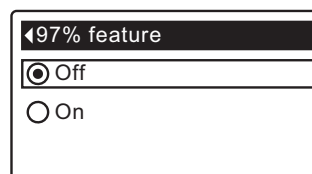

FIG. 78
- 8c. **97% feature:** If the desired option already has a black dot next to it (See Figure 78), go to Step 9. Otherwise, press the DOWN (▼) or UP (▲) buttons to scroll to the other option, then press SELECT (O) to choose it. If this feature is On, the softener will automatically recharge when 97% of capacity is used, at any time of day. Default is Off.